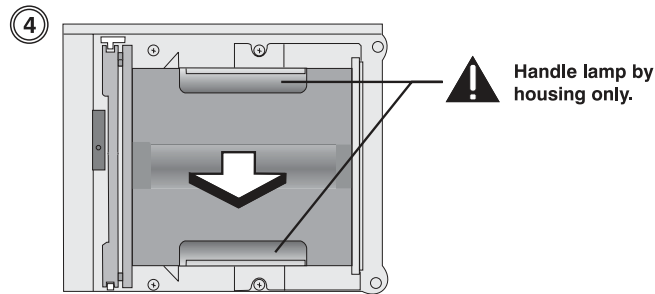

Figure 5-3. Removing the Lamp
4. Grasp the lamp by its housing only and pull it straight out (lamp slides along guides) until it's free; see Figure 5-3. Discard the lamp using safe disposal/recycling practices or contact your Runco dealer for a possible re-lamping program.